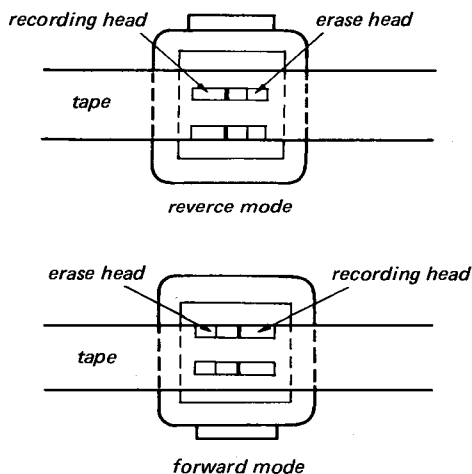
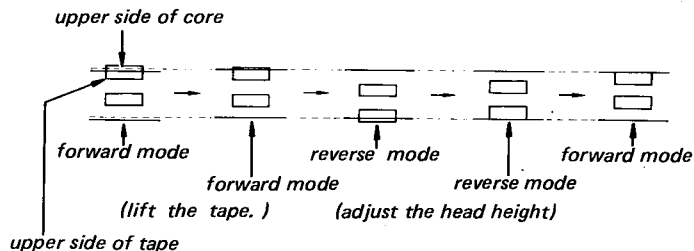

Fig. 24.
Fig. 25.
- (1) Thread a reel of blank tape.
- (2) Adjust by rotating the tape guides (A), (B), and (C) so that the tape is not riding on the lips of each tape guide. And tighten them temporarily.
- (3) In the reverse play mode, adjust by the height and zenith adjusting screws for close contact of the lower edge of the core of the record head and that of the tape as shown in Fig. 24.
- (4) In the forward mode, find whether the upper side of the core comes in close contact with that of the tape.
- (5) If the upper side of the tape comes below that of the core as shown in Fig. 25. perform the following steps.